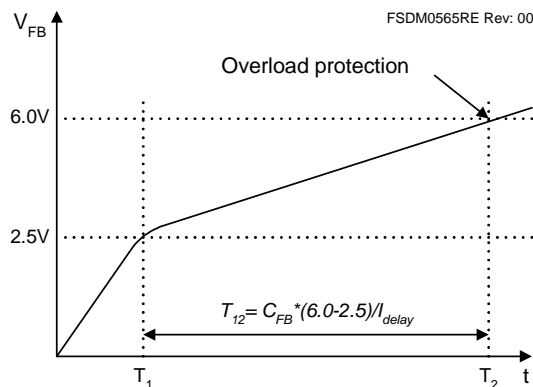

Figure 20. Overload Protection
3.1 Overload Protection (OLP): Overload is defined as the load current exceeding a pre-set level due to an unexpected event. In this situation, the protection circuit should be activated to protect the SMPS. Even when the SMPS is in normal operation, the overload protection circuit can be activated during the load transition. To avoid this undesired operation, the overload protection circuit is designed to be activated after a specified time to determine whether it is a transient situation or a true overload situation. Because of the pulse-by-pulse current limit capability, the maximum peak current through the SenseFET is limited, and therefore the maximum input power is restricted with a given input voltage. If the output consumes beyond this maximum power, the output voltage (V_O) decreases below the set voltage. This reduces the current through the opto-coupler LED, which also reduces the opto-coupler transistor current, thus increasing the feedback voltage (V_{FB}). If V_{FB} exceeds 2.5V, D1 is blocked and the $3.5\mu\text{A}$ current source starts to charge C_B slowly up to V_{CC} . In this condition, V_{FB} continues increasing until it reaches 6V, when the switching operation is terminated, as shown in Figure 20. The delay time for shutdown is the time required to charge C_B from 2.5V to 6.0V with $3.5\mu\text{A}$. A 10 ~ 50ms delay time is typical for most applications.